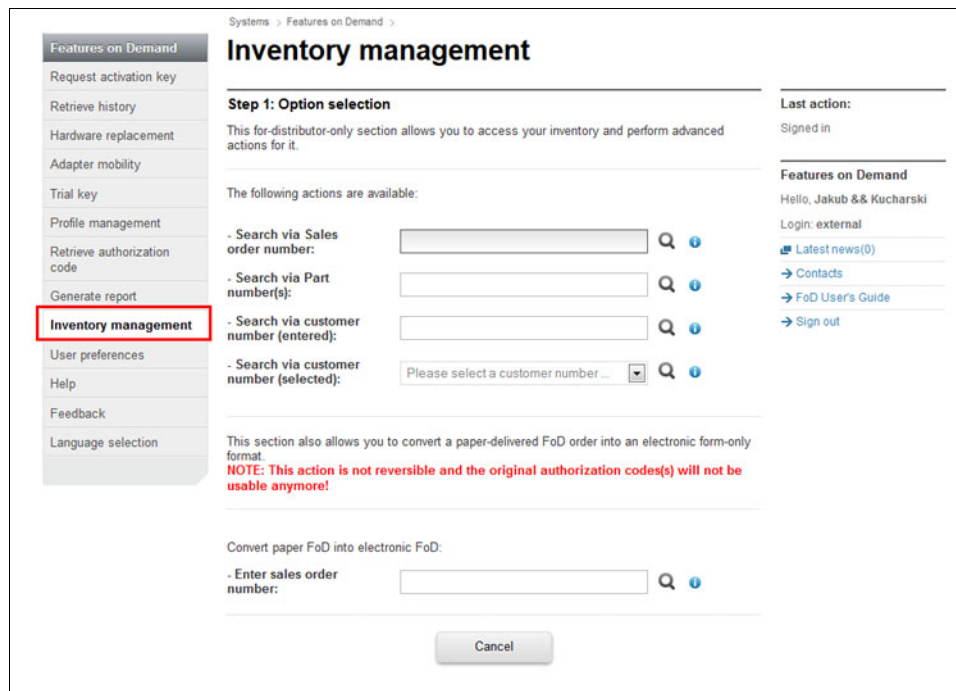

Figure 2-3 Inventory management menu on FoD site
2. Go to the Inventory management menu (as shown in Figure 2-3) and request electronic delivery for your customer number. To obtain access, send an email to FOD@us.ibm.com and provide your IBM ID, SHIP TO customer number (or numbers) and request Distributor access with electronic delivery.